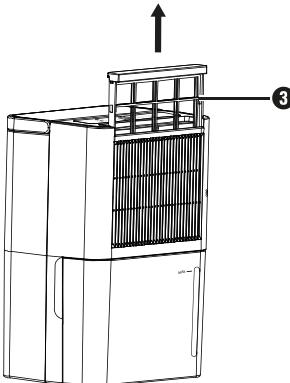

Fig. 6
- ◆ The air filter **③** is located behind the air inlet grille **②**. Take hold of the grip edge of air filter **③** with your fingers and pull it upwards out of the appliance (see figure 6).